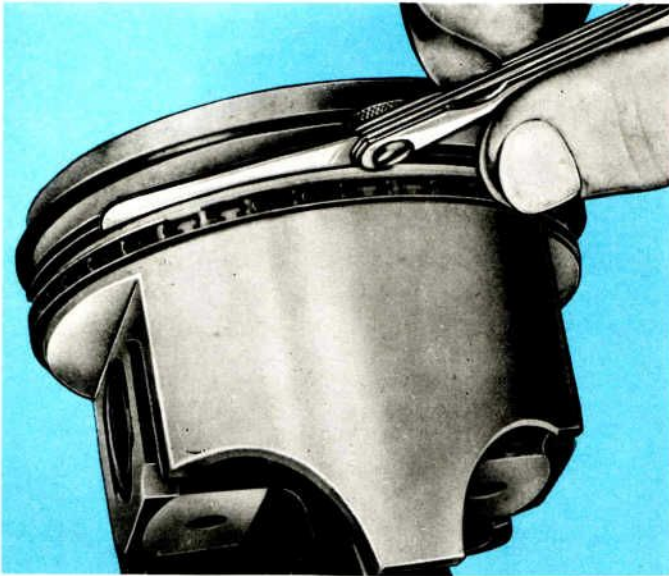

FIGURE A-11. MEASURING PISTON RING SIDE CLEARANCE
- Check the piston ring-to-groove side clearance. (See Figure A-11.)